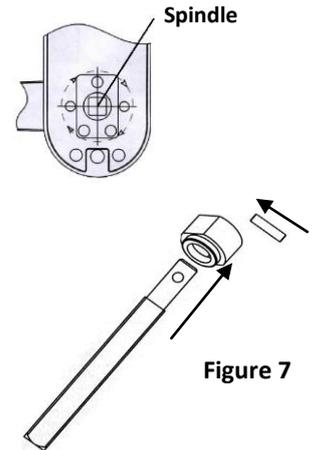

Figure 7
- Select the appropriate spindle to suit latch follower and assemble as shown in Figure 7. Feed the radius end of the spindle through the spindle collar and insert the pin through spindle hole to secure within collar.